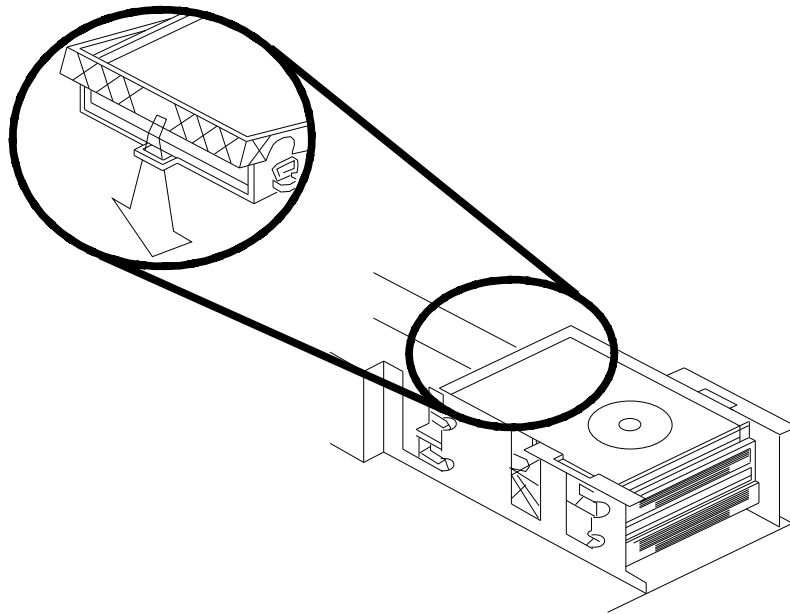

Figure D-29: Internal Hard Disk Drive — Locking Latch Position
9. Make sure the handle is locked in position with the locking latch on the back of the drive (see Figure D-29).